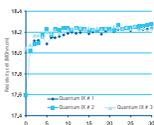
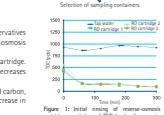

Figure 1: Initial rinsing of reverse-osmosis cartridges: changes in resistivity levels of effluent water with time.
Figure 2: Initial rinsing of polishing cartridges: changes in TOC levels of effluent water with time.
Water purification cartridges often are manufactured with preservatives for long-term storage. In particular, this is the case for reverse-osmosis (RO) cartridges. Figure 1 shows the importance of rinsing a newly-installed RO cartridge. Initial organic contamination (TOC levels) is high (~500 ppb), then decreases with time as rinsing occurs (1-60 gal after 30 min). Polishing cartridges, containing ion-exchange resins and activated carbon, also must be rinsed initially. Figure 2 and 3 demonstrate the decrease in resistivity level and TOC level with rinsing time.